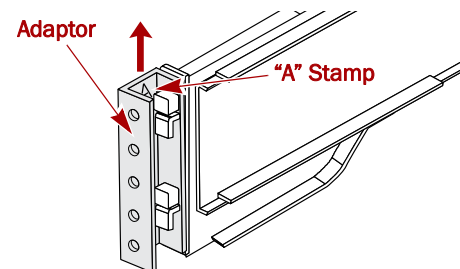

Figure 7. Attach the Adaptor to the Front
1. Attach the **adaptors** (Figure 7) to both ends of the rail: